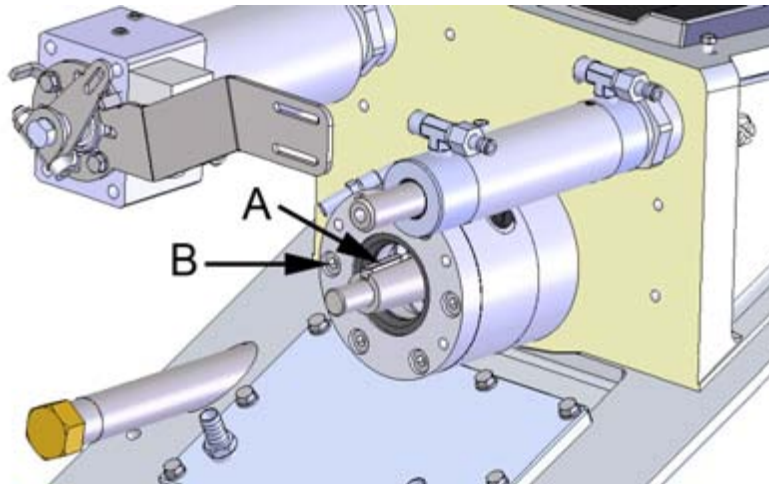

Figure 4. Removing the bearing housing
4. Remove the key from the shaft (figure 4, point A).
5. Open the bearing housing screws (6 pcs, figure 4, point B).
Use the two M6 holes, from which the screws must first be removed (figure 4, point C). Replace the screws with longer screws or threaded rods, and tighten them until they bottom out. Tighten them evenly until the bearing housing comes loose from the frame.